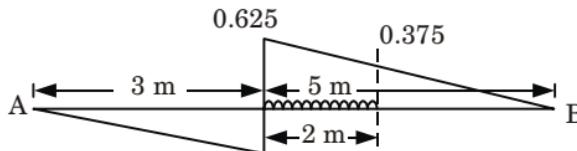

Fig. 4.7.3.
- ii. Maximum positive shear force occurs, when load applied as shown in Fig. 4.7.3.